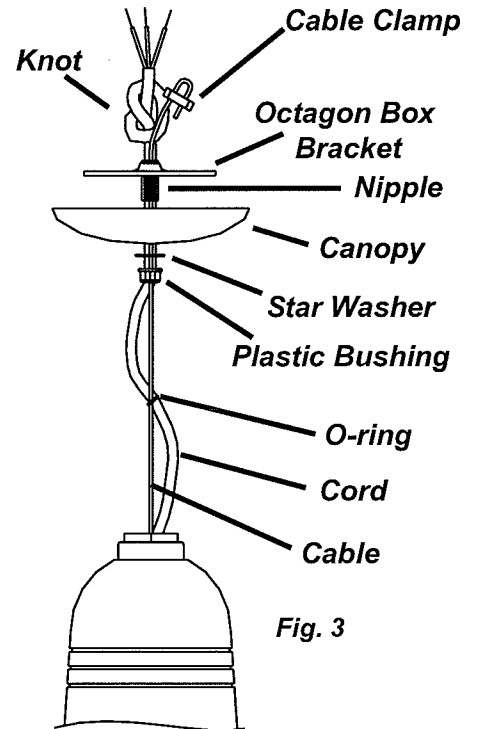

Fig. 3
(Fig. 3 & 4)
- 4b. For coil cord, adjust cord length to achieve desired "coil look". Tie a knot in the cord just above nipple/octagon box bracket. *Note orientation of strain relief in fig. 3.*